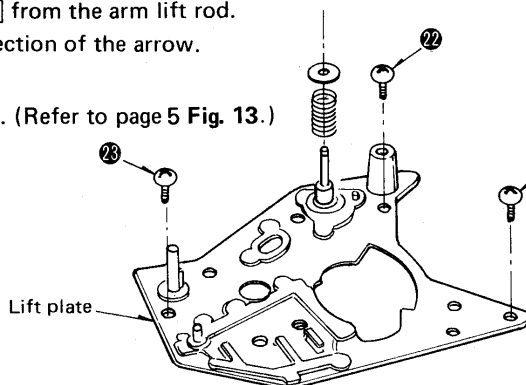

Fig. 11
● How to remove the lift plate (Fig. 11)
2. Remove the 3 setscrews [Fig. 11: 22 ~ 24] of the lift plate.